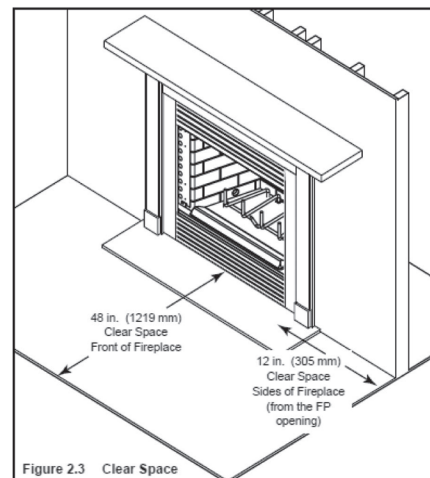

Figure 2.3 Clear Space
- Do not place combustible objects within 48 in. (1219 mm) of the front of fireplace. See Figure 2.3.